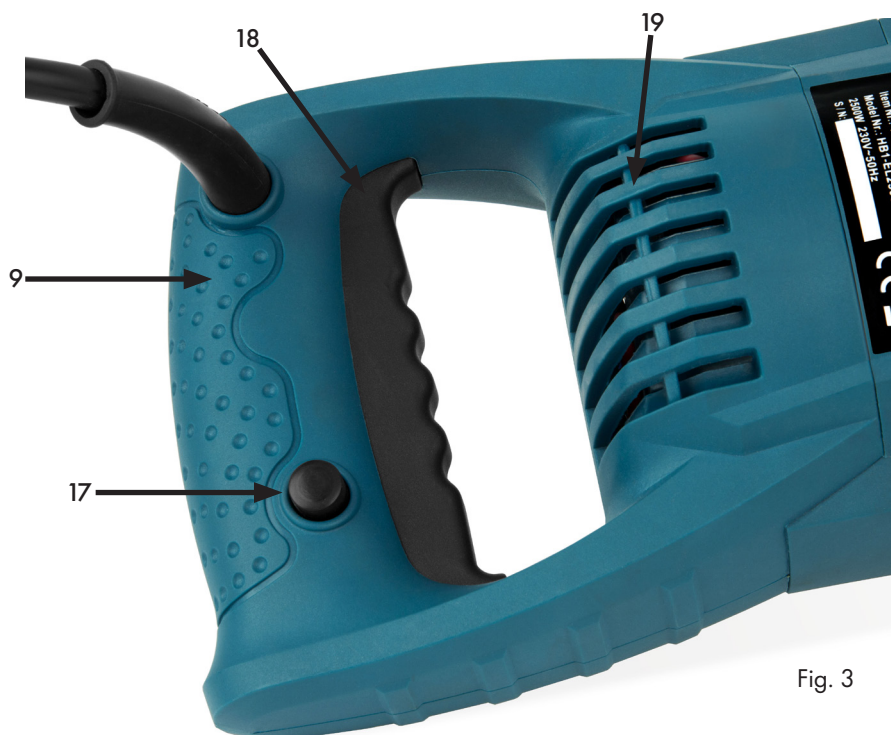

Fig. 3
Figure 3 shows the rear control unit including the ventilation slots. You will find the corresponding legend on the following page
**Legend Figure 3**